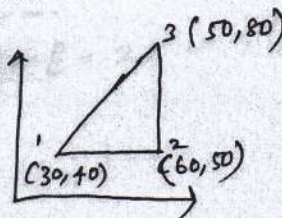

Fig. Q7 (a) (10 Marks)
- 7 a. For the triangular element shown in Fig. Q7 (a). Obtain the strain-displacement matrix 'B' and determine the strains ϵ_x , ϵ_y and γ_{xy} Nodal displacement